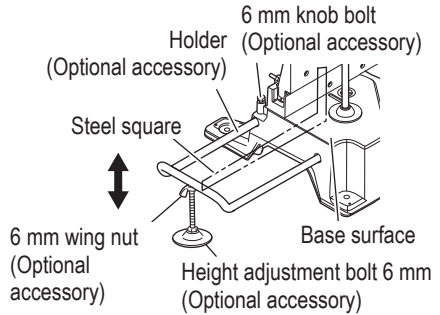

Fig. 15
- (1) As indicated in Fig. 15, use a steel square for aligning the upper edge of the holders with the base surface. Loosen the 6 mm wing nut. Turn a height adjustment bolt 6 mm, and adjust the height of the holder.
- (2) After adjustment, firmly tighten the wing nut and fasten the holder with the 6 mm wing knob (optional accessory). If the length of Height Adjustment Bolt 6 mm is insufficient, spread a thin plate beneath. Make sure the end of Height Adjustment Bolt 6 mm does not protrude from the holder. (Fig. 15)